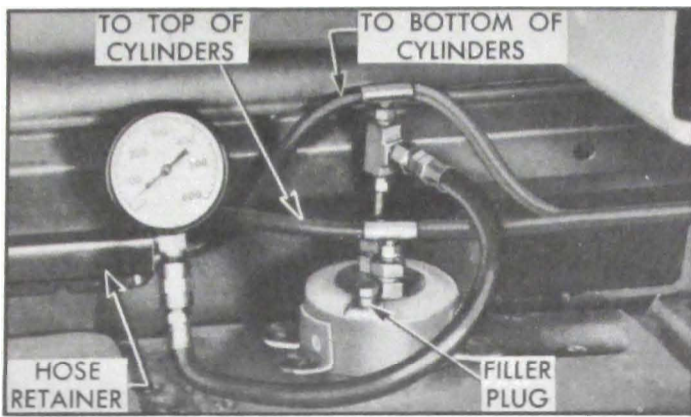

Figure 13-9—Pressure Gauge Installed at Pump
2. *Install Pressure Gauge at Pump.* Remove retainers to obtain slack in hoses connecting the pump to top lift cylinders. Remove reservoir filler plug. If top operates improperly on “up” movement, place top in raised position and install a standard pressure gauge between the pump port and “T” of hydraulic lines leading to bottom ends of top lift cylinders. See figure 13-9.
Raise the folding top, and remove the motor and pump shield in rear (trunk) compartment. Remove filler plug from fluid reservoir (fig. 13-9) and insert a suitable CLEAN dip stick. The fluid level should be 2" below top of reservoir. Add Delco Super No. 11 Brake Fluid as required to obtain the specified level.